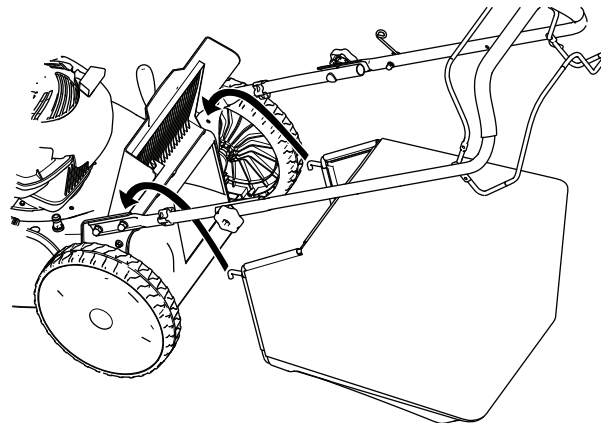

Figure 18
3. Install the grass bag, ensuring that the pins on the bag rest in the notches on the handle (Figure 18).
1. Raise and hold up the rear deflector (Figure 18).